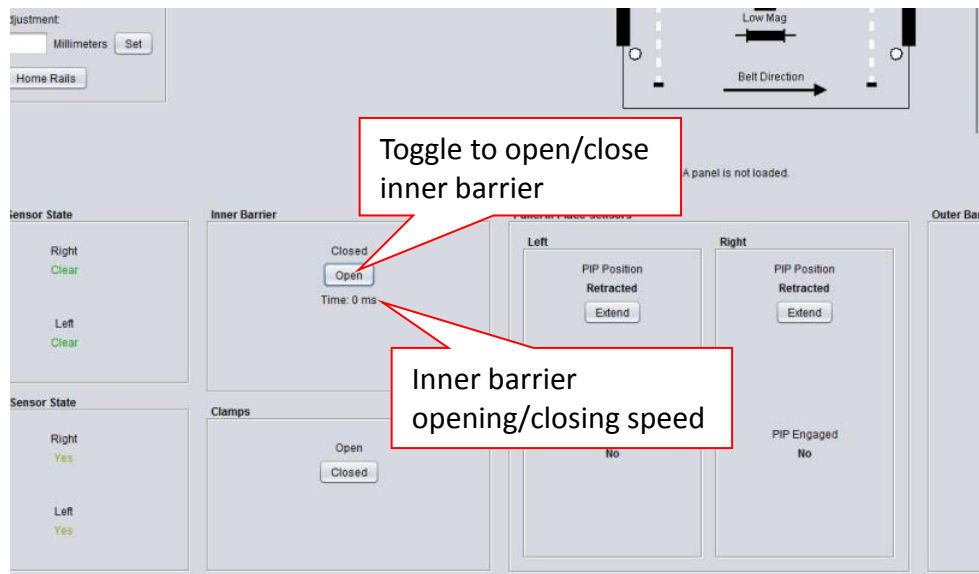

Figure 13 Inner barrier status
23. Go to Panel handling & Initialize. Manually toggle inner barrier as shown in Figure 13